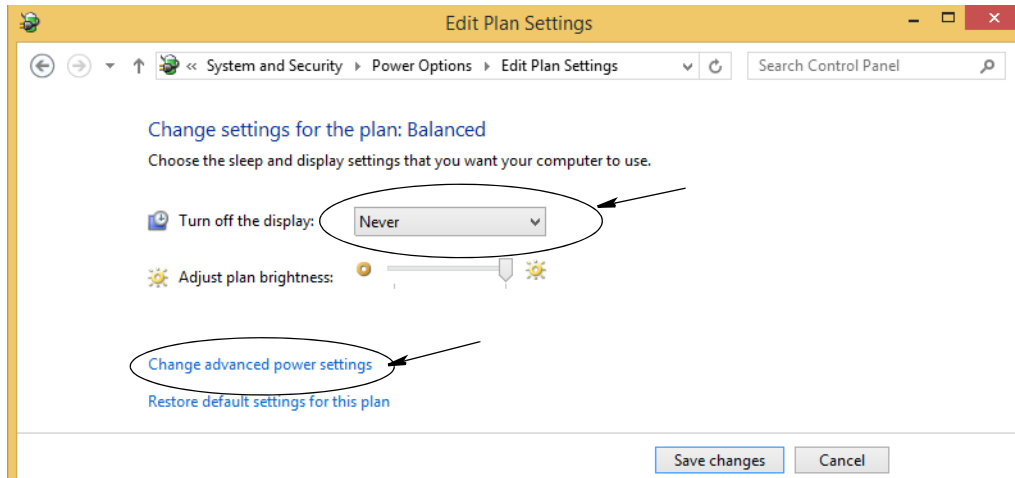

FIG. 59
3. Select the Edit Plan Settings Option. On the Edit Plan Settings screen (FIG. 59).